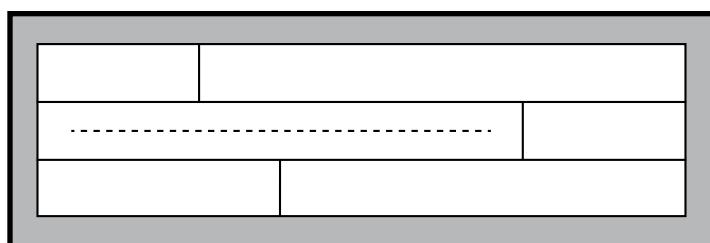

Figure 8
- Use a power circular saw to make a cut down the center of the damaged plank to within 2" of the ends. (See figure 8.)